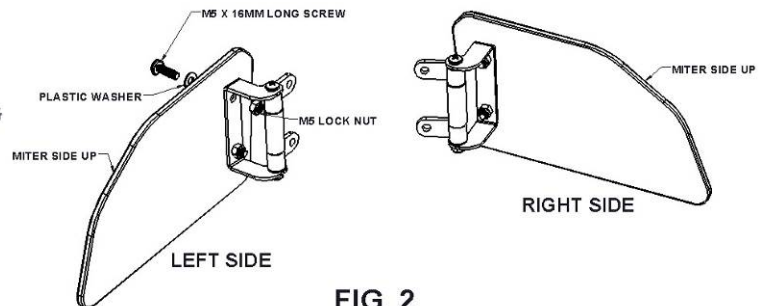

FIG. 2
3. MOUNT THE DEFLECTOR PANELS TO EACH OF THE HARDWARE ASSEMBLIES AS SHOWN IN FIG. 2 BELOW. USE A M5 X 16MM SCREW WITH A PLASTIC WASHER ON THE OUTSIDE WITH A LOCK NUT ON THE INSIDE. BE CAREFUL TO NOT OVER TIGHTEN SCREWS.